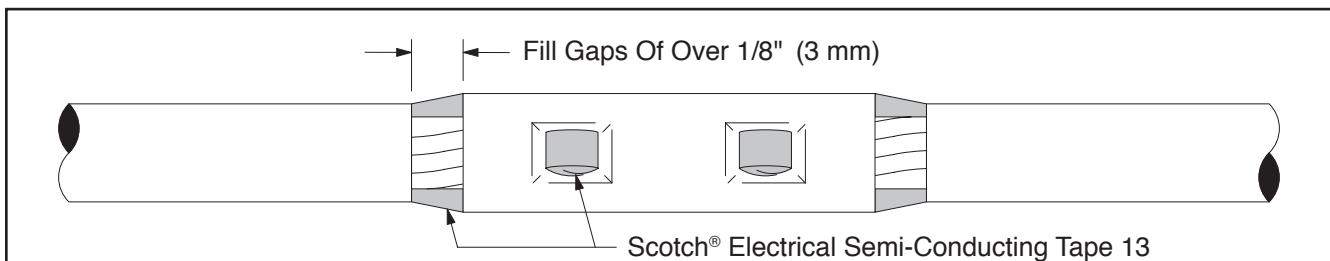

Figure 8
- c. If a gap greater than 1/8" (3 mm) exists between the connector and cable insulation, fill the gap with Scotch® Electrical Semi-Conducting Tape 13 (Figure 8). **Do not exceed height of the connector.**
- d. **For indent crimped connectors only:** Fill connector indents with 13 tape (Figure 8).